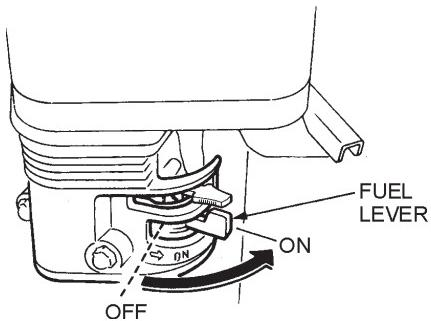

Figure 10. Fuel Valve Lever
1. Place the **fuel valve lever** (Figure 10) in the "ON" position.
3. Place the **fuel valve lever** (Figure 10) in the "**OFF**" position.